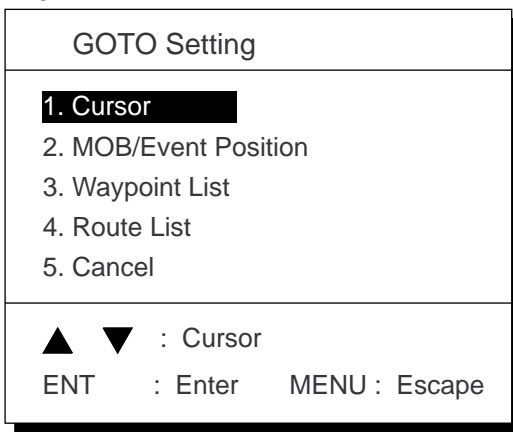

Figure 5-2 GOTO setting menu
1) Press the **GOTO** key. The menu shown in Figure 5-2 appears.